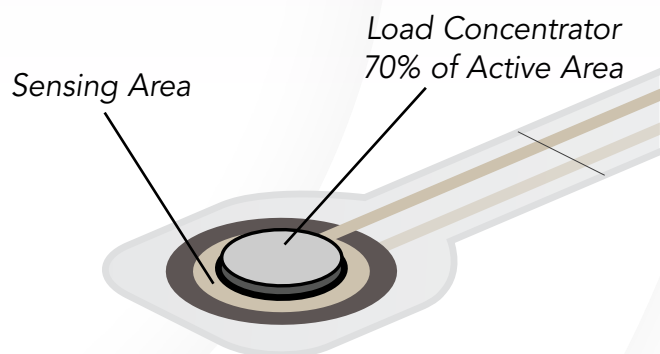

FIGURE 10: MECHANICAL “PUCK” FOR LOAD CONCENTRATION
- When a load actuator is not ideal, use a “puck” (see Fig. 10):